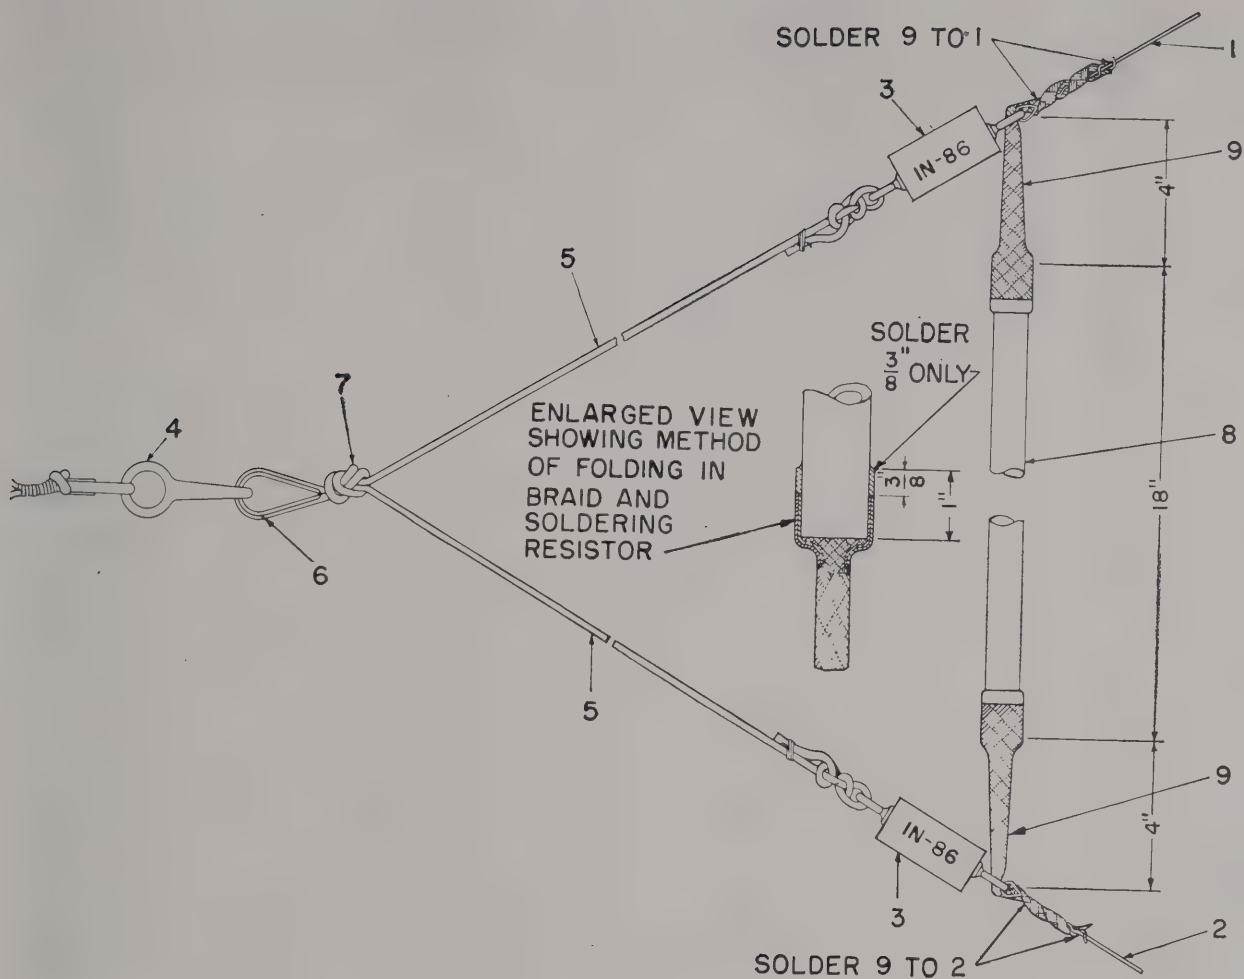

Figure 66. Details of terminating resistor assembly.
a. Splice one Insulator IN-86 on one end of each of the two wires just cut, as shown under the metal braid (item No. 9 at junctions of items Nos. 1 and 3, and items Nos. 2 and 3 in fig. 66) with at least 10 wraps of wire. Do not solder yet.
b. Cut a 6-foot piece of rope from the 125-foot piece of Rope RP-3, and tie the ends to the outside ends of the insulators just spliced (junctions of items Nos. 3 and 5, fig. 66).
c. Insert the thimble (item No. 6, fig. 66), and serve with six or eight turns of Twine RP-13 about one-fourth inch above the thimble and tie an overhand knot (item No. 7, fig. 66).
d. Unroll one guy (item No. 4, fig. 66) and snap the hook on the end of the rope through the thimble (item No. 6). Tie the other end of this rope to a tree or other anchor, near the center of one end of the assembly area chosen, with a couple of half hitches. Take care not to lose the hook, ring, and pulley assembly on the rope.
i. Attach another guy snap hook temporarily to the center of the rope yoke (item No. 21, fig. 67), and stretch the antenna between two trees or ground stakes so that it cannot kink during the subsequent operations. Serve ropes as shown in figures 66 and 67. *Again be careful not to lose the hardware on the guy.*
The terminating resistor assemblies (fig. 66), one for use and two spares, are made as follows:
f. With the hot soldering iron, flow solder into and through the braid to the ferrule for three-eighths inch from the inside edge of the braid (items Nos. 8 and 9, fig. 66). The solder-free, double-thick braid resting on the edge of the resistor tends to prevent excessive cutting and wearing of the supporting braid during periods of high wind.
g. Tin both antenna wire splices at the insulators (items Nos. 1 and 2, fig. 66).
h. Place the braid from one end of the terminating resistor assembly through the ring of one insulator (solder note, fig. 66). Leave 4 inches of braid between the ring and the resistor, and wrap about 3 inches of braid spirally around the wire joint just tinned. Then bind the end to the antenna wire, with a few turns of small bare copper tie wire. Cut off excess braid.
j. Solder both connections firmly, letting the solder flow through the braid for the distance shown between the arrows (solder note, fig. 66) but being very careful to keep all solder at least 1 inch away from the insulator ring. If solder flows in the braid to a point on the resistor side
Loosen the knot in the rope yoke (item No. 7, fig. 66) and adjust its position until a pull on the thimble (while keeping both antenna wires taut) will also exert sufficient pull on the braid leads of the terminating resistor to keep it tightly in position.